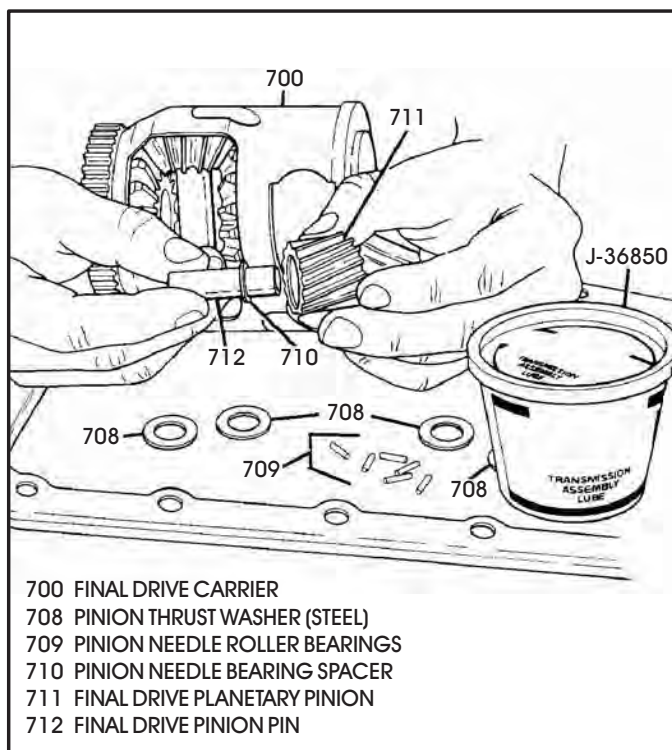

Figure 81
5. Apply Trans-Jel® to the inside of the pinion gear and install spacer on the pinion pin, as shown in Figure 81.